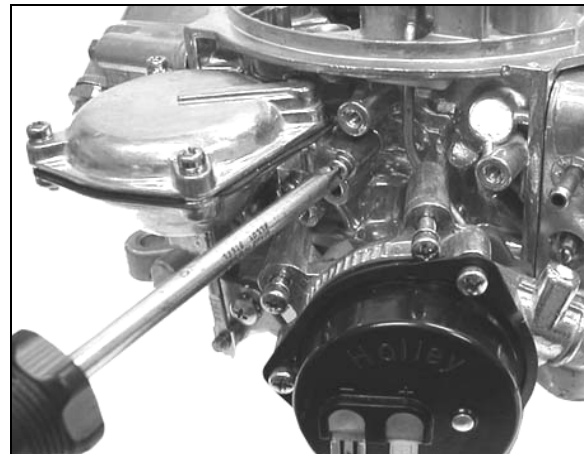

Figure 8
2. Remove three screws attaching secondary vacuum diaphragm to the main body (Figure 8).